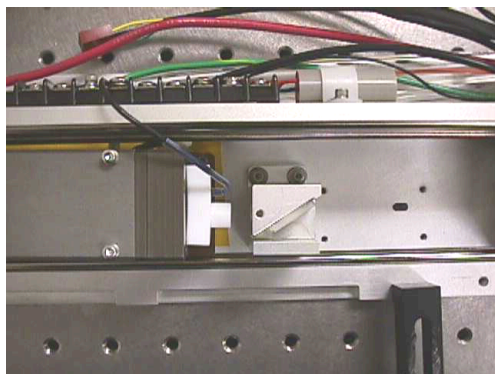

FIGURE 11
- **Adjust** the two (2) #4-40 x 1/2 SHD (2825-6736) screws, two (2) #4 split lock washers (2825-8155), and two (2) #4 big OD flat washers (2825-8152).
- **See** Figures 11 and 12